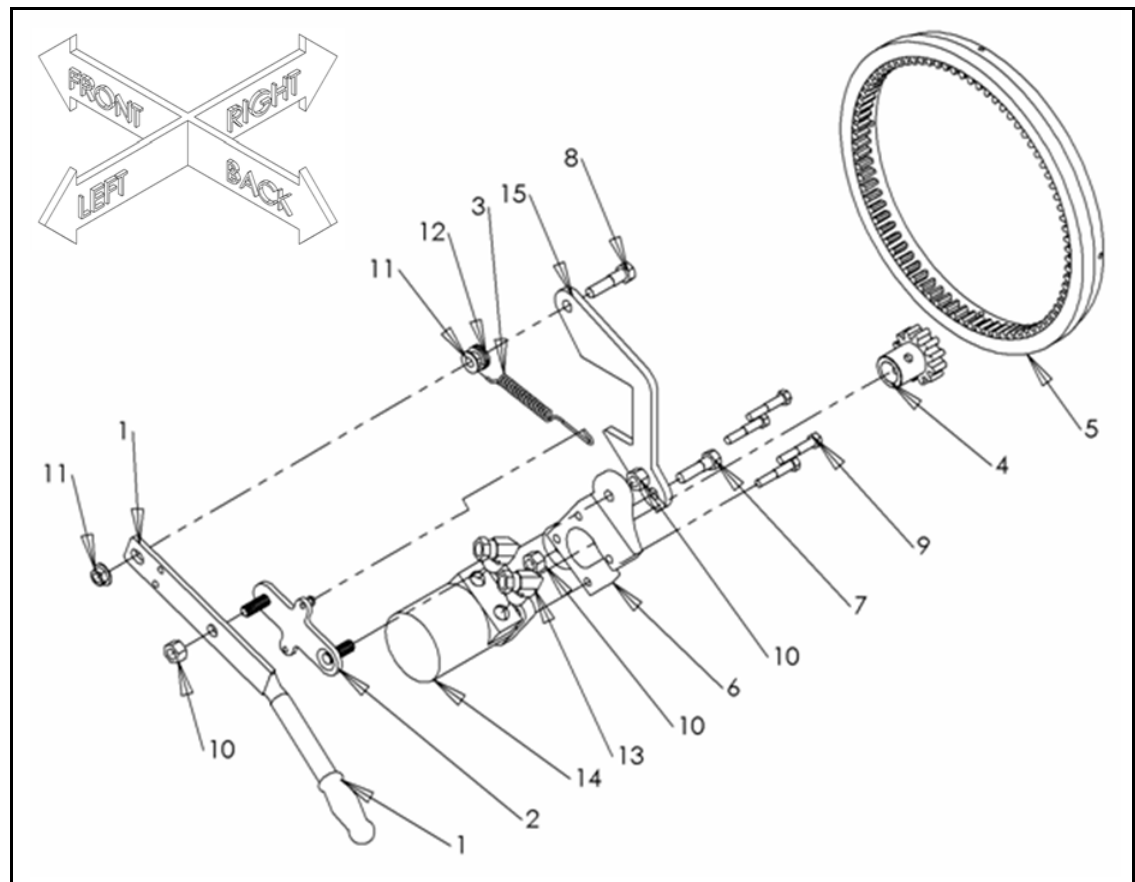

Figure 3.30
5. Noting the orientation in Figures 3.30 and 3.31, install the wheel move spring and overcenter handle to the axle tab with 1/2" x 2" bolts, locknuts, and flat washers.